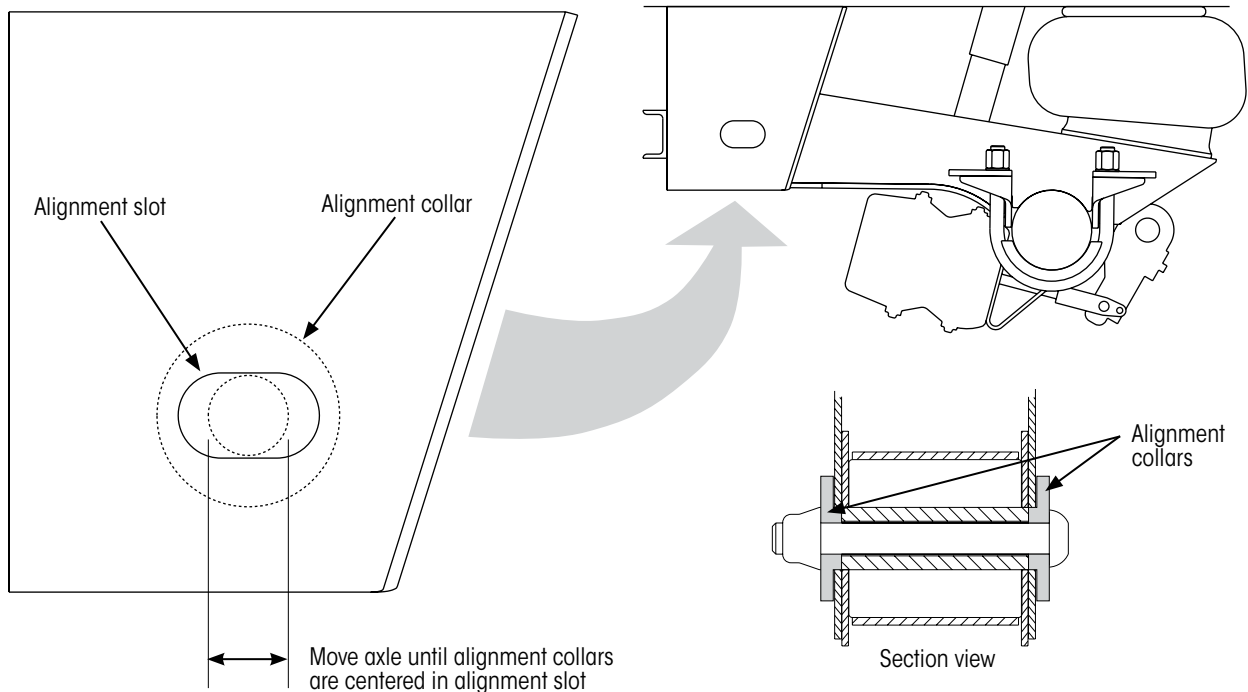

Figure 25: Axle positioning on the welded-collar type frame bracket when major adjustment (both axle ends) is necessary
- B. With both axle ends loose, **move** the axle until the alignment collars are centered in the frame bracket alignment slots (Figure 25 on page 19).